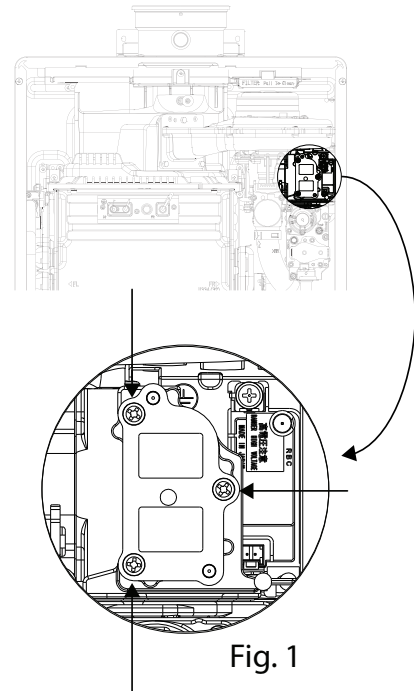

Fig. 1
4. Locate orifice cover plate on top portion of gas valve (Fig. 1).
5. Remove 3 screws securing orifice cover plate (Fig. 1).